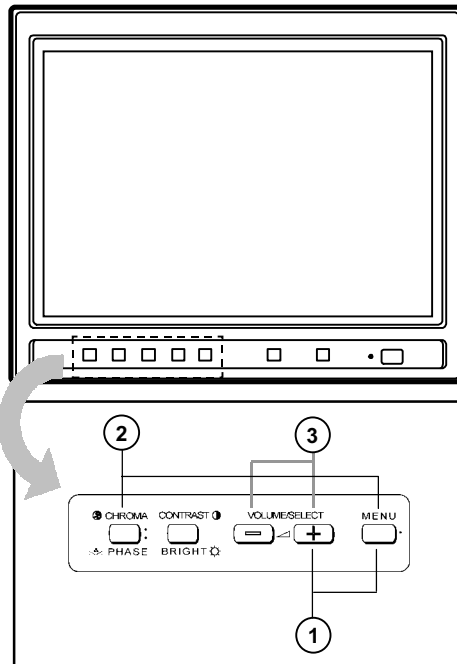

Fig.1
(1) HOW TO ENTER THE SERVICE MENU
- ① Press **MENU** key and **VOLUME/SELECT + (UP)** key simultaneously (Fig. 1).
- ② While displaying the letter "S", press **MENU** key and **CHROMA/PHASE** key simultaneously (Fig.1).